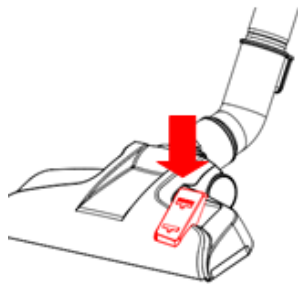

Fig. 12
3. As in fig.12, tread on the pedal of the brush tool to let the bristles out, and you can clean the floor.